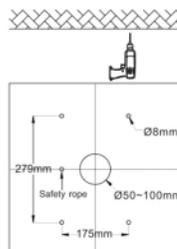

Figure 2
2. Drill the alignment holes on the top ceiling, make them match to the holes on fixture (Reference supplied screws for diameter of holes (Figure 2)).